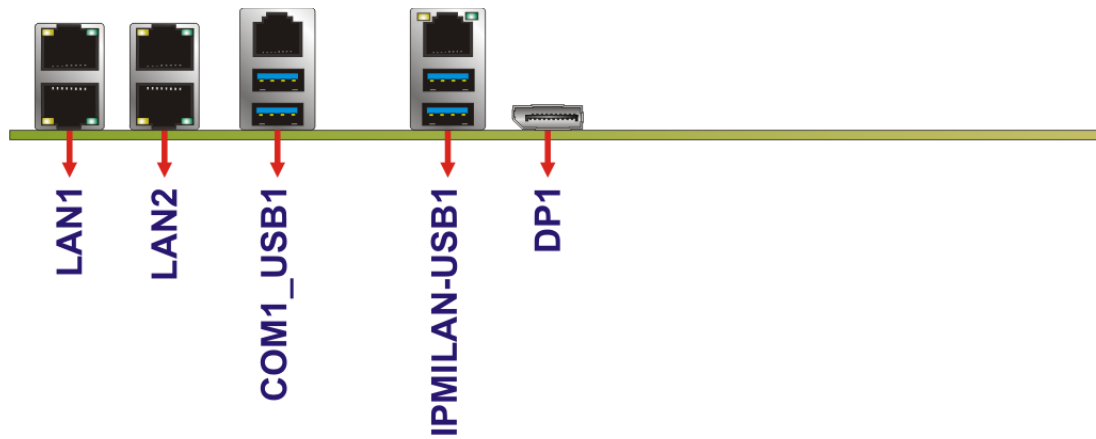

Figure 3-27: External Peripheral Interface Connectors
- CN Location:** See **Figure 3-27**